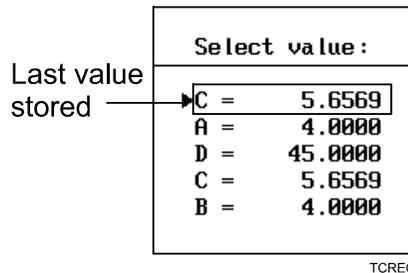

Figure 5-8, Triangle Calculator Recall Pop-Up
3. Highlight the **Triangle Calculator** template and press **ENTER**. The Triangle Calculator Memory Selection Pop-Up is displayed. Refer to **Figure 5-8**.